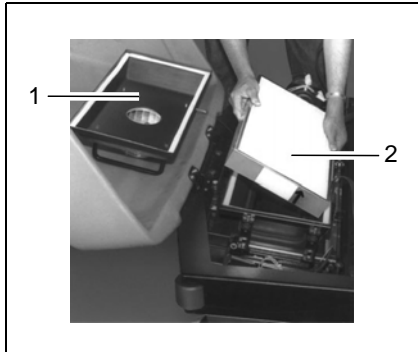

Fig. 37
Clean the panel air filter (Fig. 37/2) in the dust vacuum regularly and as necessary using the agitating device:
2. Remove the straps holding the filter case cover (Fig. 37/1).
3. Remove the filter case cover (Fig. 37/1).
4. Remove the panel air filter (Fig. 37/2).
Drop the panel air filter (Fig. 37/2) a few times, from a suitable height, onto a solid surface. Ensure the filter ribs are not damaged!
The surface must not have any irregularities. Do not let the panel air filter (Fig. 37/2) drop at a slant.
Do not install panel air filters (Fig. 37/2) which have damaged filter ribs!
The panel air filter (Fig. 37/2) must be installed in the reverse sequence to disassembly, refer to Section "Disassembling the panel air filter".
To not insert the panel air filter (Fig. 37/2) the wrong way around! Pay attention to the arrow on the frame of the panel air filter (Fig. 37/2)! The arrow must point upwards.